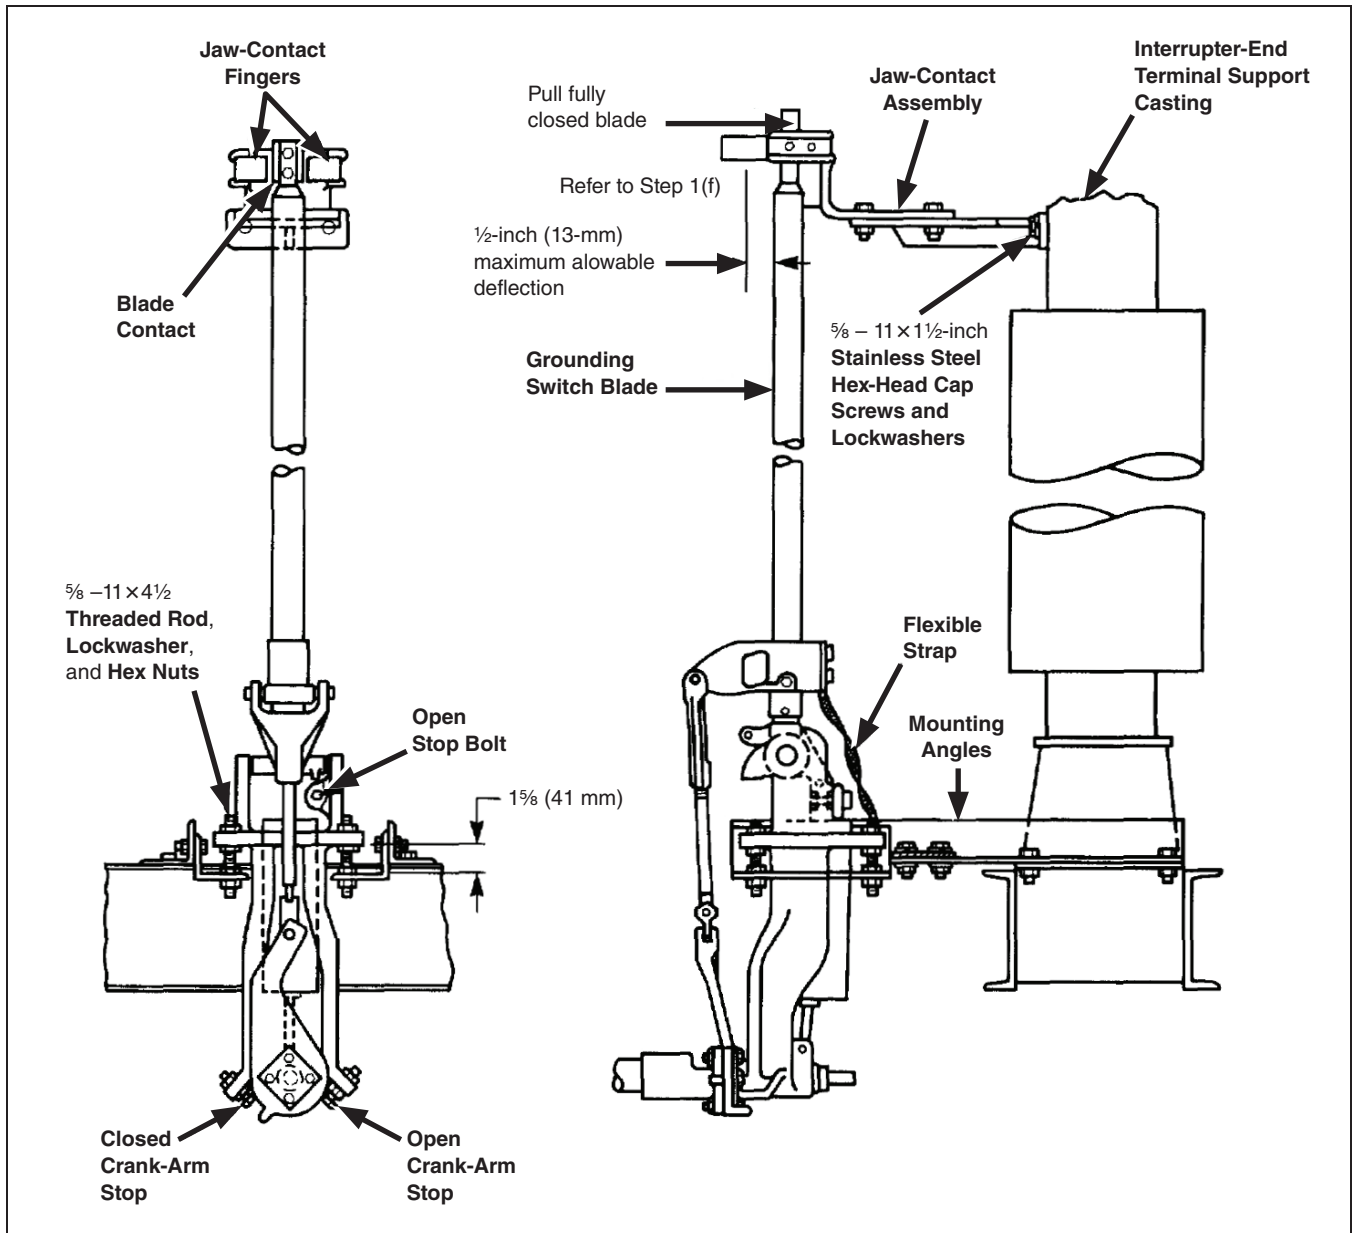

Figure 1. Grounding-switch live parts attachment detail.
- (a) Mount the jaw-contact assembly on the side of the circuit-switcher terminal support casting (at the interrupter end) using the $\frac{5}{8}$ -11 \times 1½-inch stainless steel hex-head cap screws and lockwashers. See Figure 1 on page 7. The screws used to attach the jaw contact should be left loose enough for adjustment.
- (b) Attach the grounding-switch mounting angles to the circuit-switcher base as shown on the erection drawing and Figure 1 on page 7.
- (f) Adjust the leveling nuts further so the grounding-switch blade applies a definite pressure to the jaw-contact fingers on closing (to ensure positive contact engagement) and rests against its stop when fully closed. Check for proper blade closure by pulling the blade away from its **Closed** position. See Figure 1 on page 7. With the blade fully closed and resting against the nylon stop in the jaw assembly, it should be possible to move the blade no more than ½ inch (13-mm) before meeting positive resistance. When proper blade closure has been attained, securely tighten the uppermost set of hex nuts used to attach the grounding-switch assembly to the mounting angles.